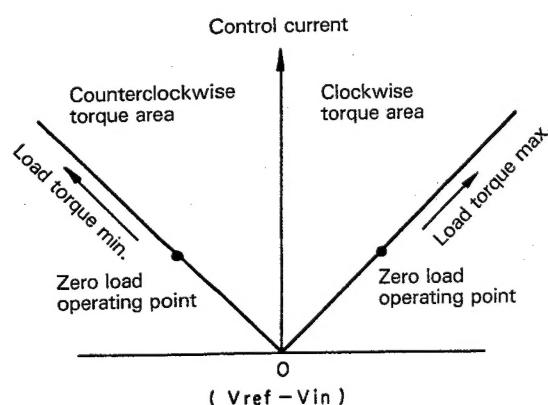

Fig. 10-14 Input/Output Characteristics
- 1 . The signal from pin ⑥ (control input) is compared with that from pin ⑤ (reference voltage), and the difference in voltage is used to regulate the amount of current in the motor windings. The resulting input/output characteristics are shown in Fig. 10-14.